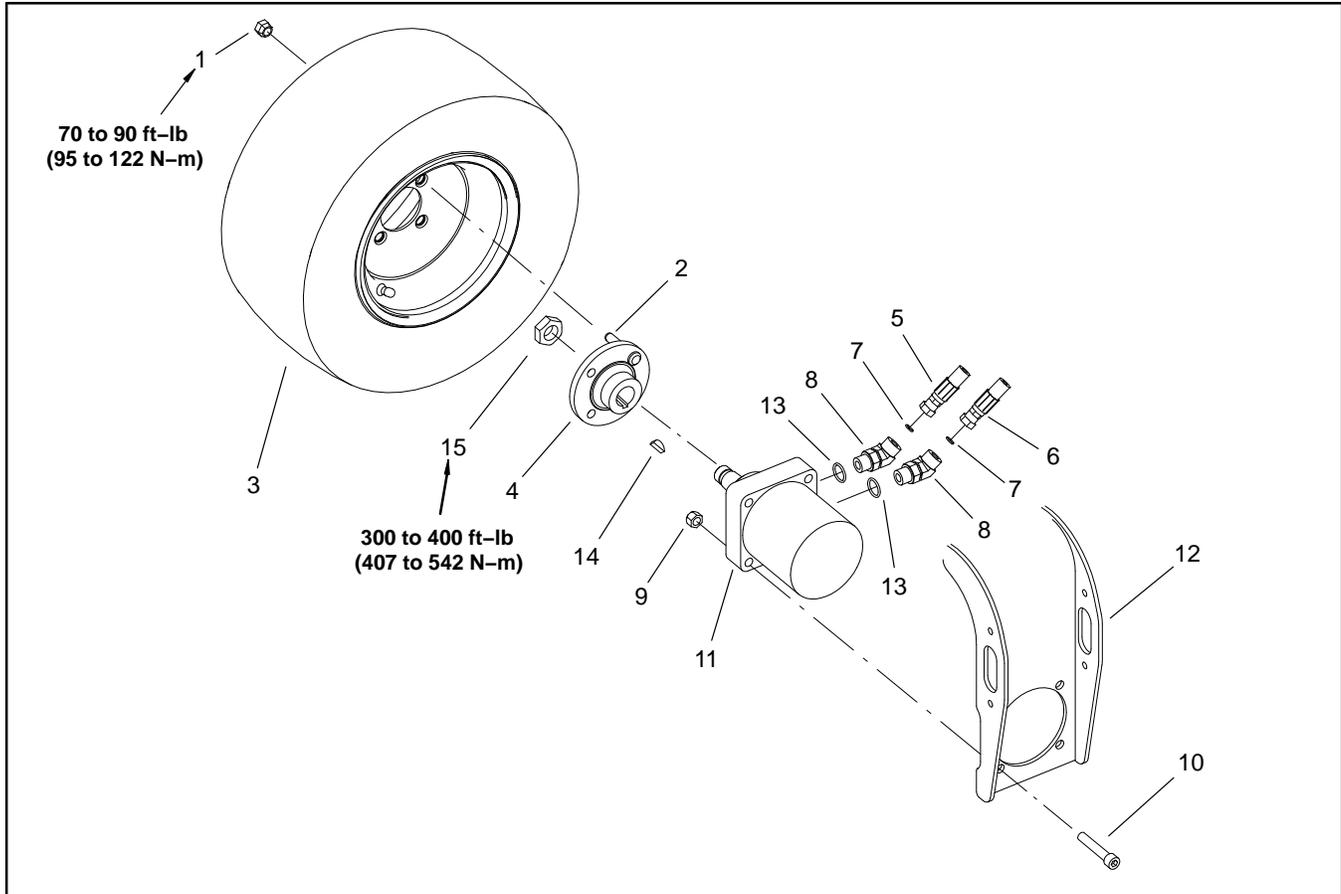

Figure 63
Removal (Fig. 63)
Installation (Fig. 63)
4. Install wheel motor to the rear fork (Fig. 63).